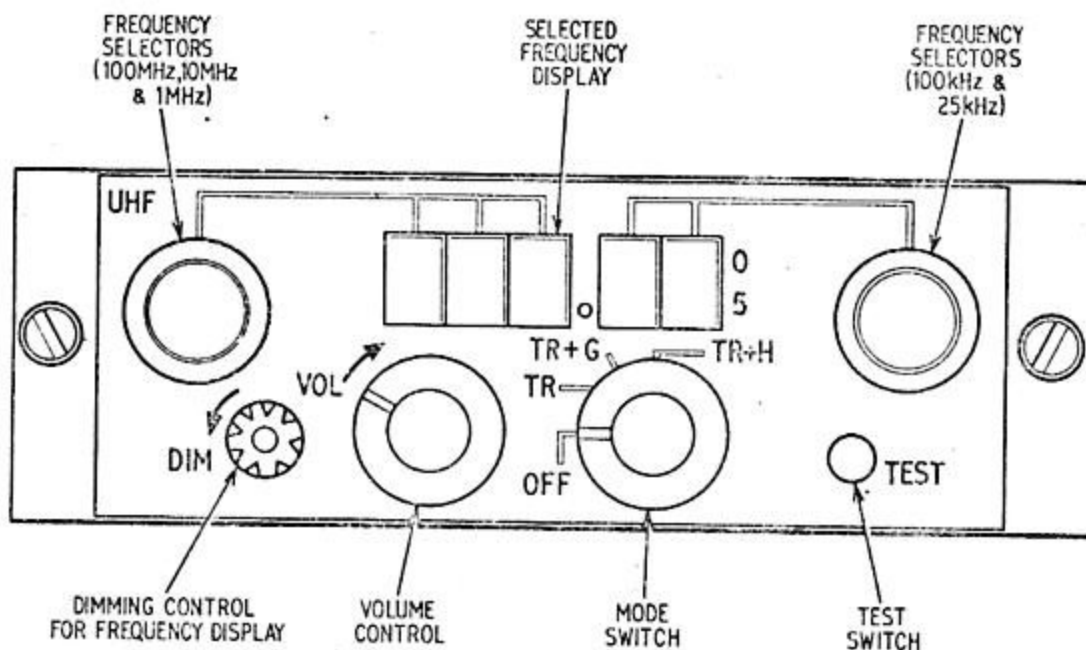

Fig. 2 Front panel facilities
4. The control, radio station front panel facilities are shown in Fig.2 and their functions are shown in Table 1.